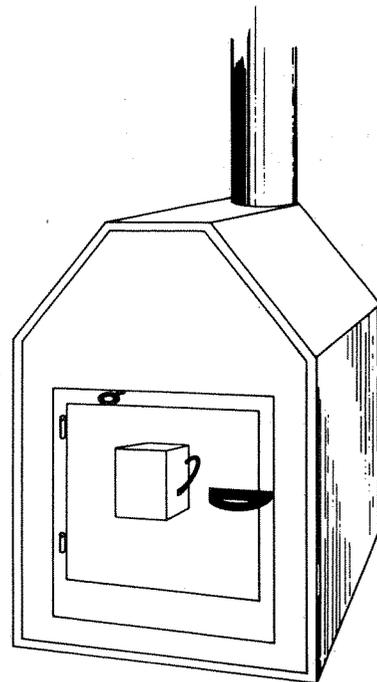

Fig. 90. Thermo-Control Model 500A wood-burning furnace.
31. **Thermo-Control Wood Stoves** (manufacturer), Howe Caverns Rd., Cobleskill, NY 12043. Both models (Fig. 90 and Table 10) operate in horizontal flow-pattern similar to Riteway models ("down-draft"). Door contains preheat chamber. Interior vertical baffle has bypass damper door operated by lever in front of furnace. Leg height is adjustable. Secondary draft is preheated in tubes running along both sides and exiting at the bottom of baffle in the path of exhausting gases and smoke for secondary combustion. Airtight doors have gaskets. Both models work in tandem with existing furnaces. Model 500W comes with 3/4-inch black iron pipe already installed in the firebox. Model 500A includes warm-air hood. Options include domestic hot-water piping (\$79.00), warm-air hood (\$100.00—for 500W), and tool set (\$24.95).